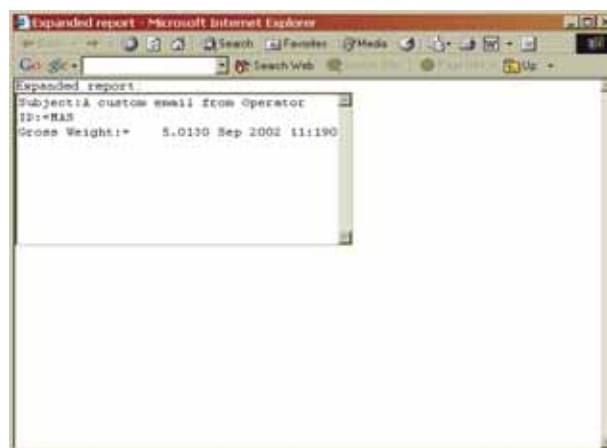

FIG. 311: EXPANDED VIEW OF ENTERED TOKENS
Step 10. To see an expanded version of the tokens click on expand. The Expanded Report appears with the tokens replaced by the Parameter, Date and Time. Expanding the tokens is a good idea to make sure the parameter numbers entered are what you are looking for in an E-mail report. (See Fig. 311)